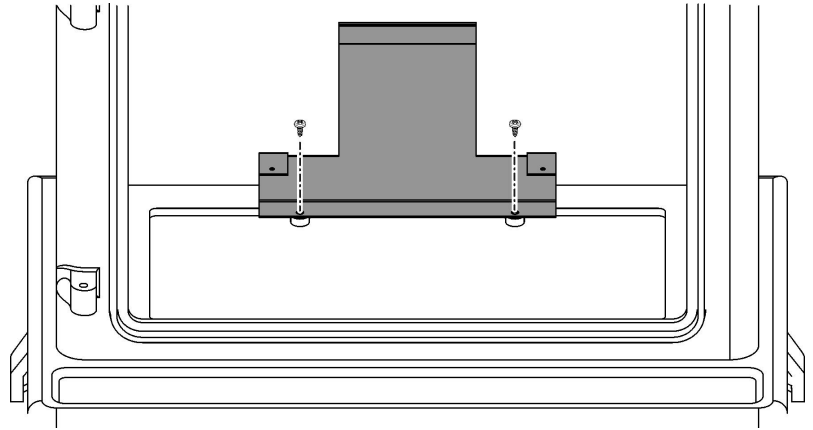

Figure 5.
3. Secure the rear leg at the back of the stove base using two No.4 x 10mm screws supplied (See figure 5).